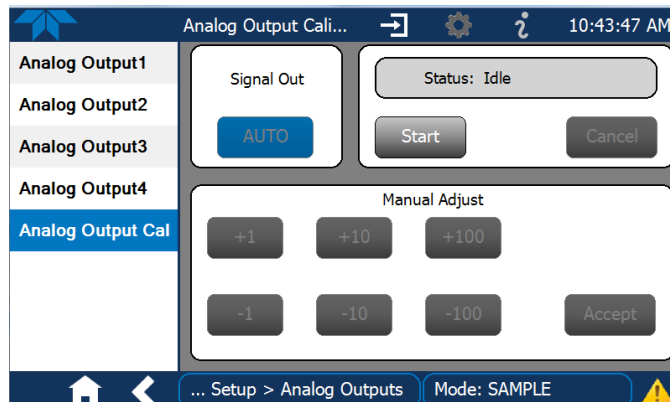

Figure 2-45. Analog Outputs Group Calibration Screen
- AUTO for group calibration (Figure 2-45) of the analog outputs (cannot be selected when Current is selected for the Range)